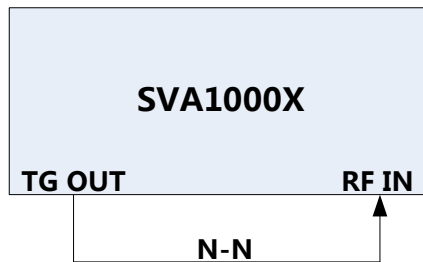

Figure 3-10 Connecting test instruments for TG Output
1. Connect the RF IN port and TG OUT port by an N-N cable as figure 3-10 shows